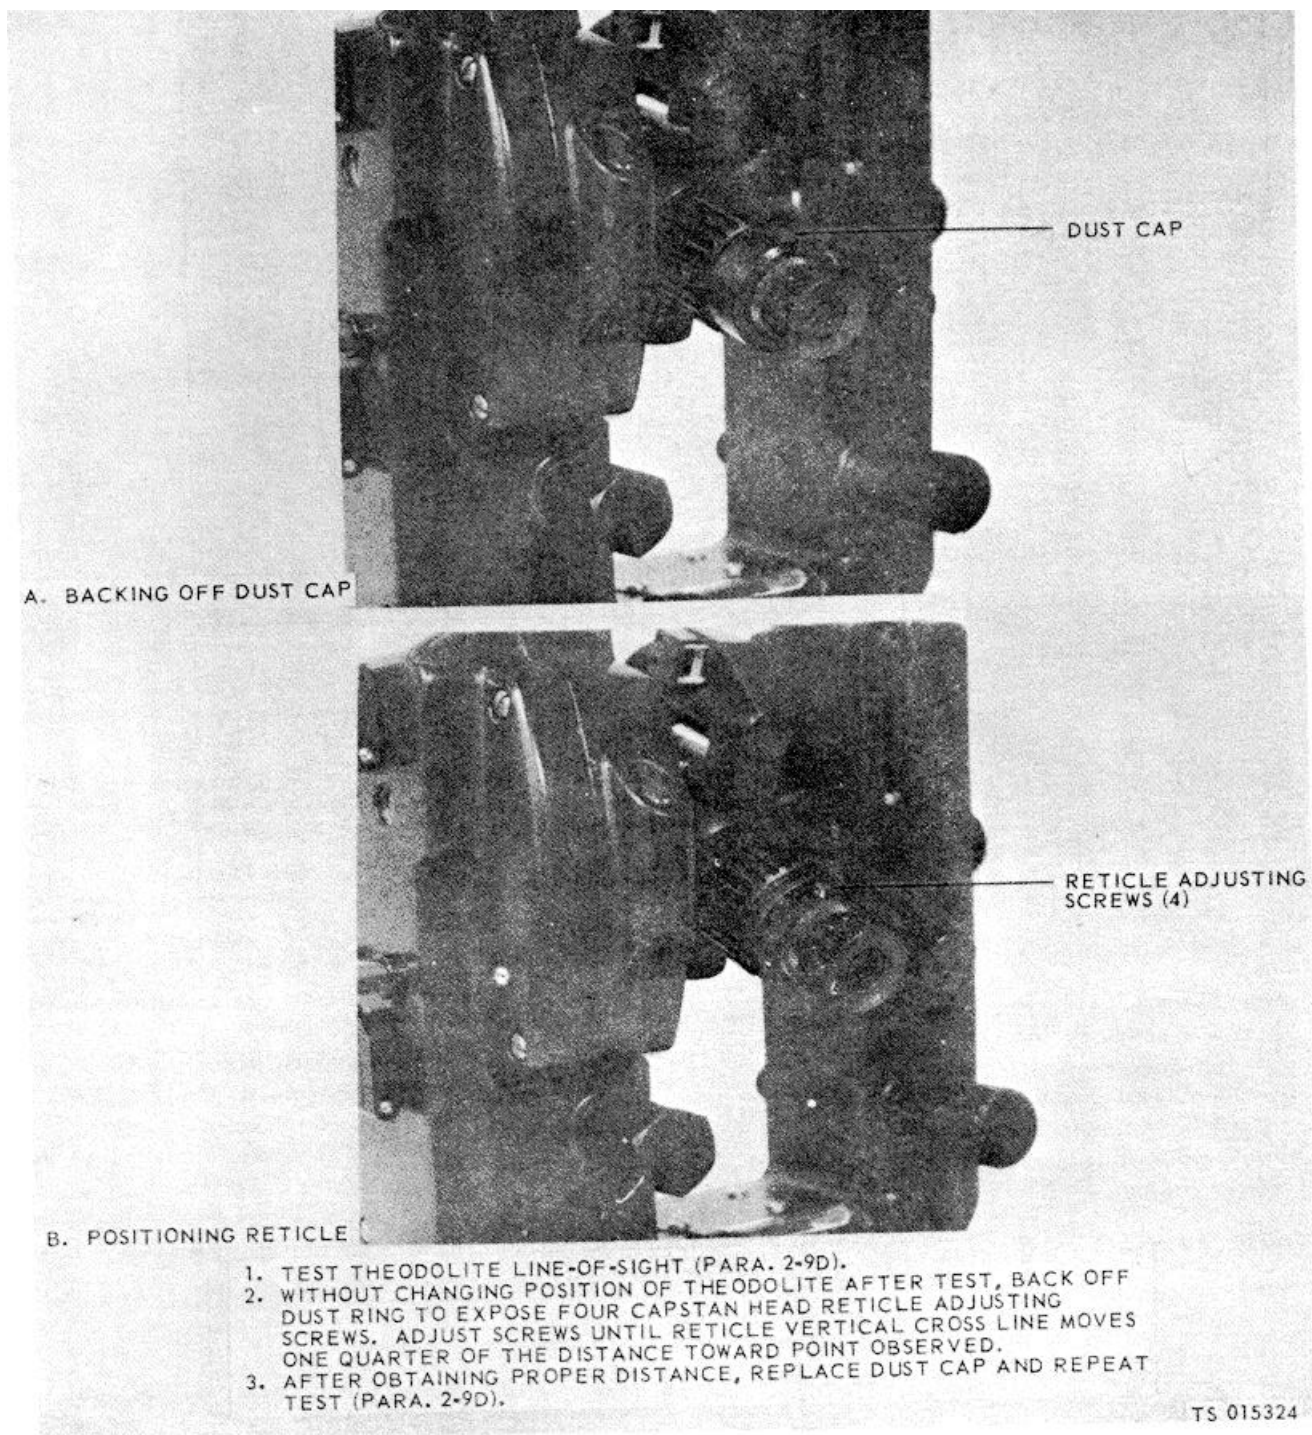

Figure 2-17. Line-of-sight adjustment.
(1) Testing.
- (d) Transit telescope on its vertical axis. Vertical cross line should fall on second point. If it does not, proceed as given in step (2) below.
(2) Adjustment. If vertical cross line failed to fall on second point as described in step (1) above, make sure instrument remains in position, and proceed as given in figure 2-17.